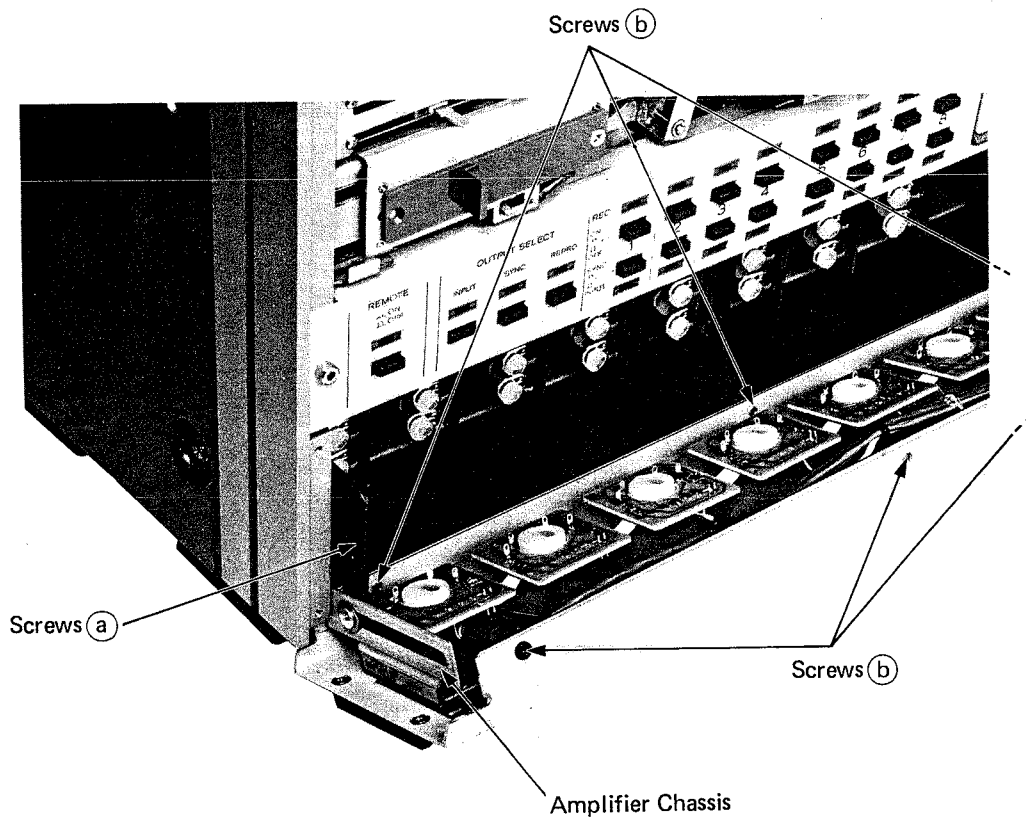

Fig. 7-11 VU Meters
1. To remove the amplifier panel (A) assembly, remove the four retaining screws with a 3 mm Allen wrench and pull outwards.
2. Next remove the screws (a) from each side, and as shown in Fig. 7-11, pull the amplifier panel (A) assembly downwards.
3. Remove the six screws (b) from the upper and lower sides of the amplifier panel assembly (A) to remove the amplifier chassis that's holding the meters in place.